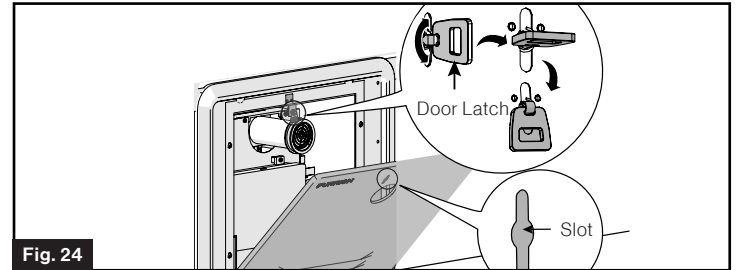

Fig. 24
7. Align the latch on the flange with the slot on the door, then push the door and rotate the latch to lock the door into place. (Fig. 24)
- Step ①: Pull and rotate the lever 90° to lock the latch.
- Step ②: Turn down the folding latch to lock.